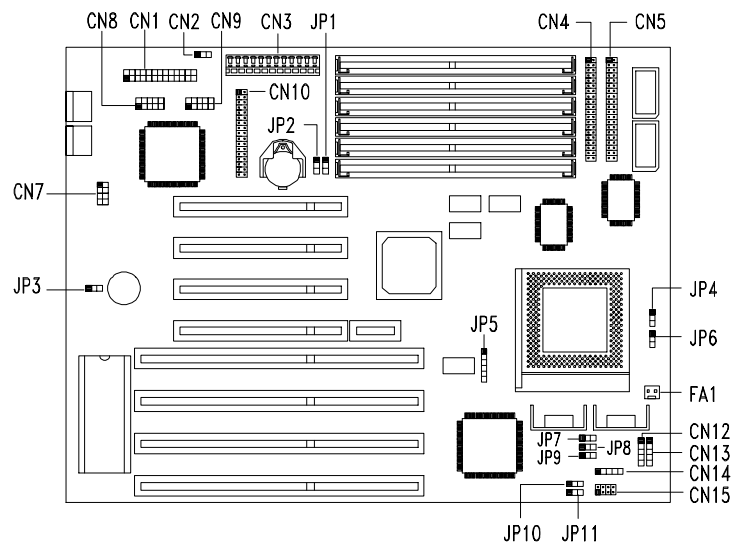

Figure 1-3 Jumper and Connector Locations
Figure 1-3 shows the jumper and connector locations on the system board.
1. Locate the USB connector on the system board. See Figure 1-3.